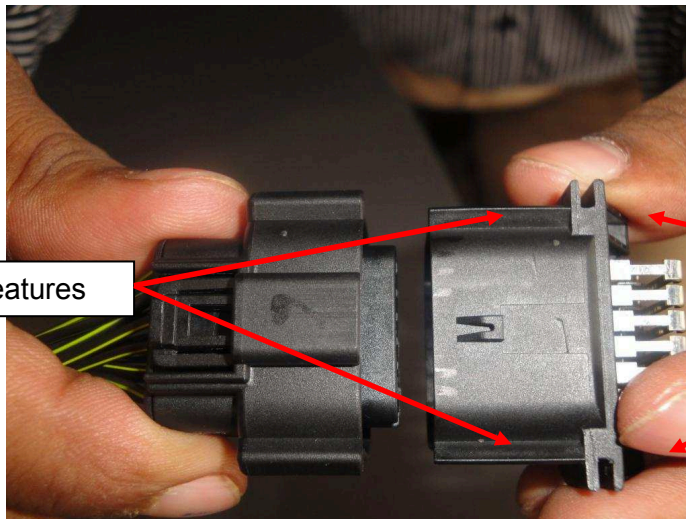

Fig 1
- 1) Hold the header (mounted in control unit) and receptacle as shown in Fig.1. Align connector keying features, from receptacle connector to header, Begin mating process along the same axis by sliding the two connectors together.